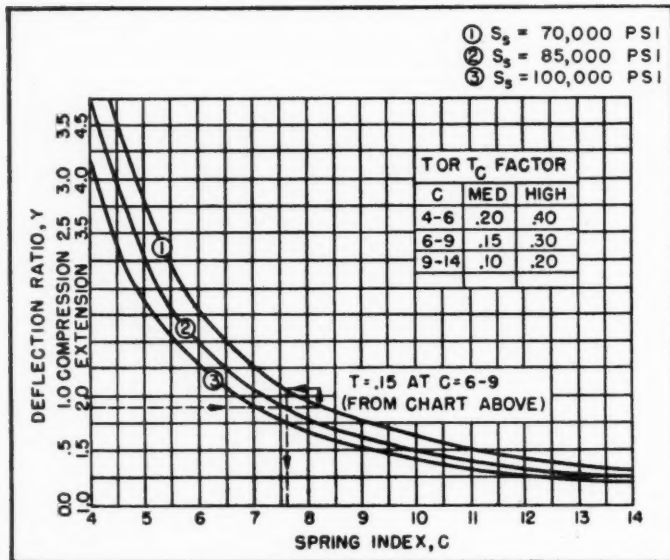

Fig. 9. Graph Developed for Use in Selecting Spring Indexes
The actual use of the equations for spring index C may be simplified considerably by plotting graphs of Y vs C . Fig. 9 is a Y vs C graph that has been prepared from Equations (10) and (13) for the design of music-wire springs. It is not necessary to plot a different set of Y vs C curves for compression springs, because solving for Y in Equations (10) and (13) gives for extension springs:
The graph Fig. 9 was calculated with $G = 11,500,000$, and $S_s = 70,000$ for Curve No. 1, 85,000 for Curve No. 2, and 100,000 for Curve